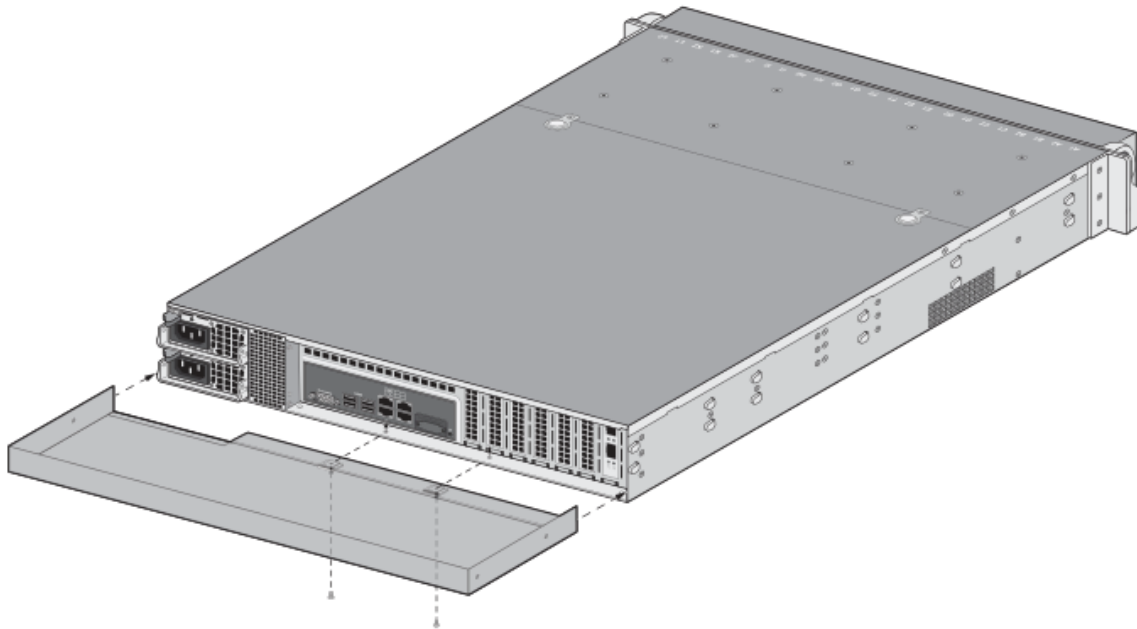

Figure 43 - M-500: Install Rear Opacity Shield Tray
Attach the rear opacity shield tray to the appliance. First, remove the two (2) screws (shown in Figure 43) from the appliance and use these screws to secure the rear opacity shield tray.